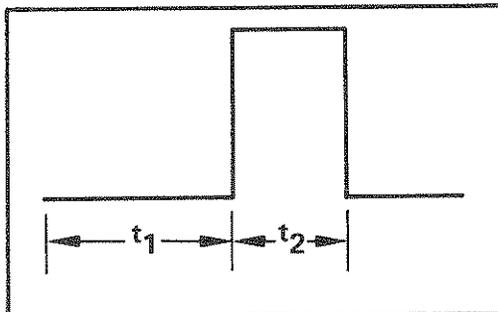

Figure 5-3. Oscilloscope Display of Waveform Symmetry
- g. Adjust oscilloscope for display as shown in Figure 5-3.